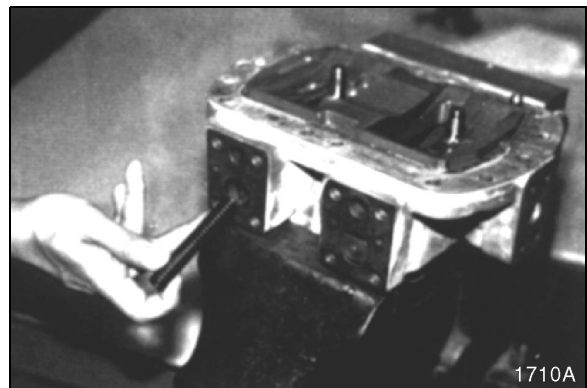

Figure 116
12. Install small spring. See Figure 116.